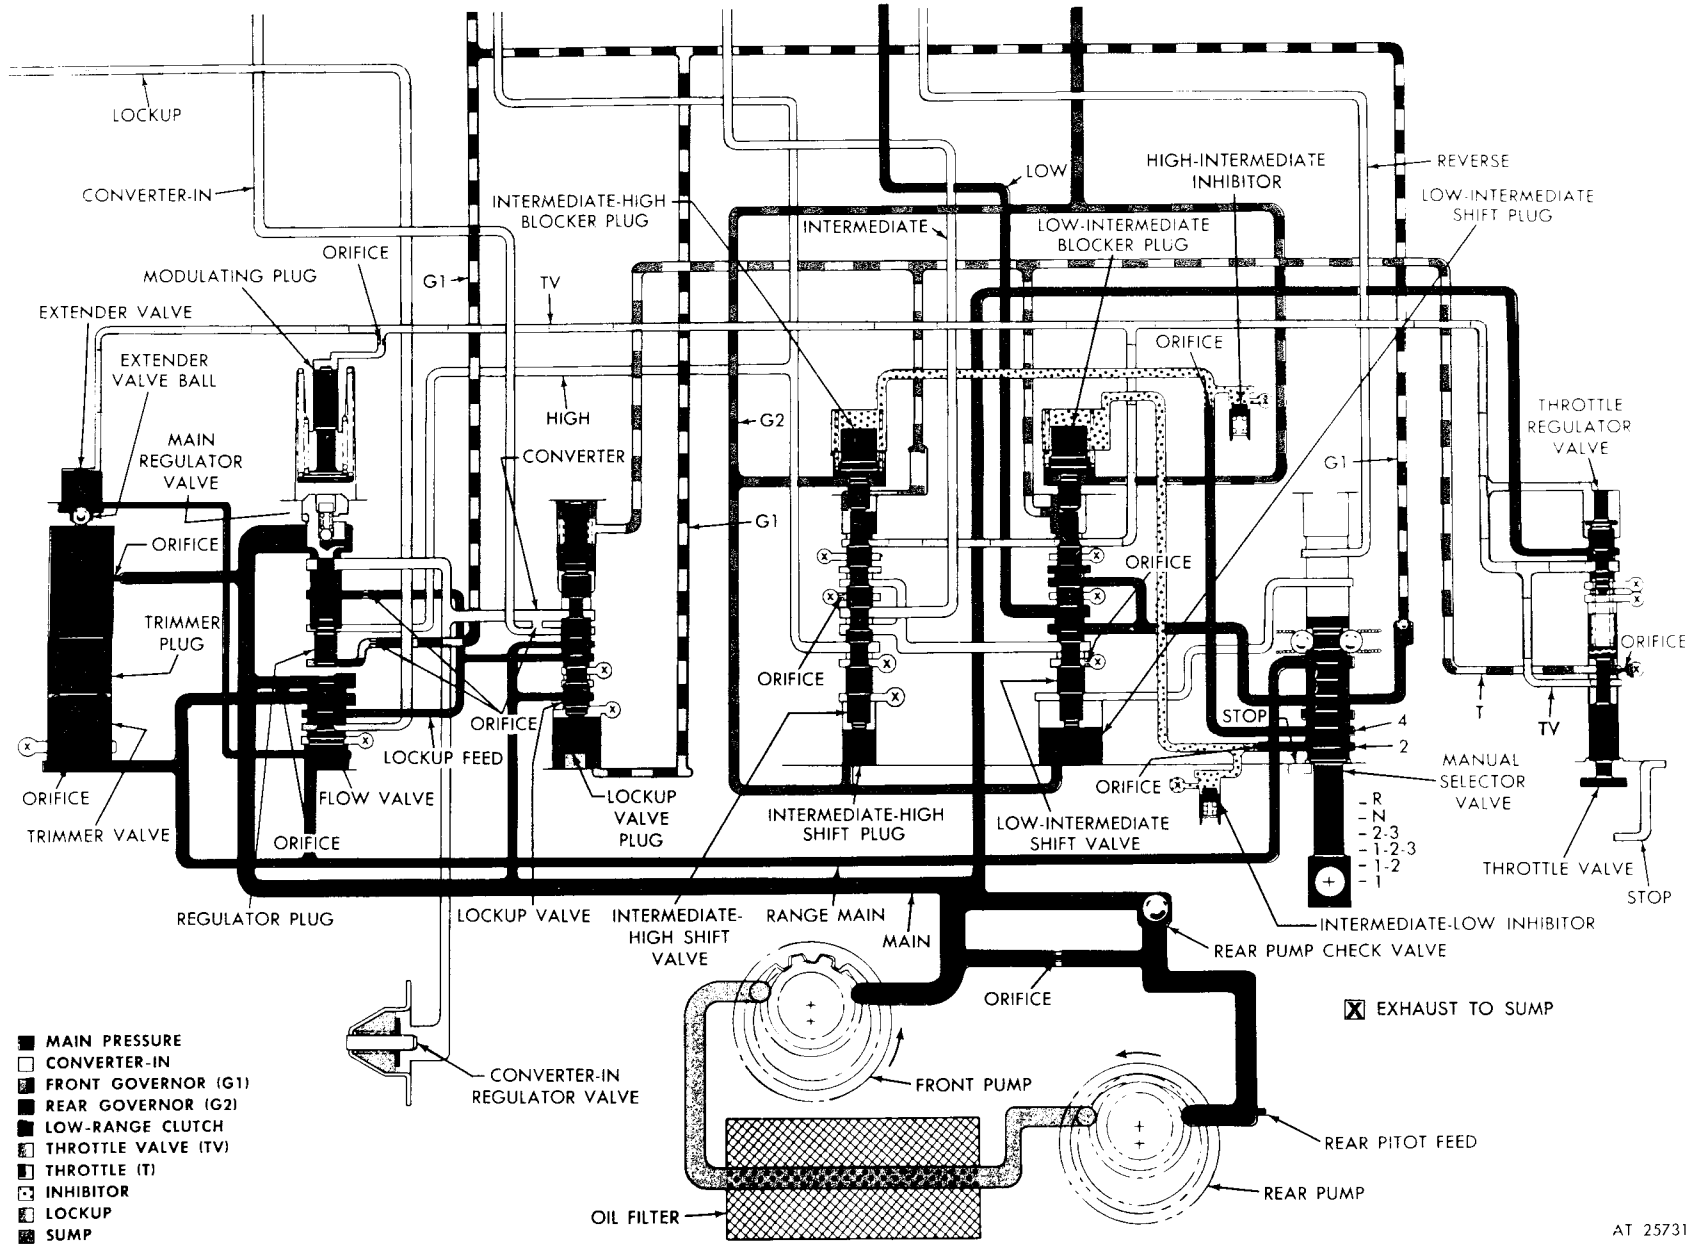

Figure 2-4. Hydraulic system low-range operation—schematic view.
a. Main Pressure Circuit (red—fig. 2-4).
(1) Figure 2-4 illustrates low-range operation of the transmission while engine throttle is open and the lockup clutch is engaged. The explanations of circuits and components, below, will refer to previous explanations where applicable.
(2) Oil is pumped into the main pressure circuit by both oil pumps (when vehicle is moving forward) in low-range operation. The rear pump check valve is open (upward) when the rear pump is rotating. Oil is distributed as described in paragraph 2-14a (2).
(3) At the throttle valve, during full-throttle operation as illustrated, the throttle valve (TV) and throttle (T) circuits are charged. Refer to *f* and *g* below for explanations of these circuits.
(4) At the manual selector valve, main pressure is directed to four points. These are the front governor check valve ball, low-intermediate shift valve, high-intermediate inhibitor circuit, and intermediate-low inhibitor circuit. Main pressure seats the check valve ball (upward) in the front governor (G1) passage and prevents governor pressure from exhausting.
(5) At the low-intermediate shift valve, main pressure divides to two branches. The upper branch is blocked but the pressure exerted against valve lands of different diameters exerts a downward force on low-intermediate shift valve. This pressure acts only when the valve is downward and prevents cycling of the valve. A similar downward force, resulting from unequal valve land diameters, is exerted in the lower branch. These forces act only when the valve is downward. The lower branch connects, when the low-intermediate shift valve is
b. Converter-In Circuit (yellow—fig. 2-4).
(1) The converter-in circuit functions as described in paragraph 2-14b, except for two conditions shown in figure 2-4 which differ from those shown in figure 2-3. In lockup operation, the flow of oil to converter-in line must pass through the orifice near the left side of the lockup valve. Also, the converter-in regulator valve is shown in an open position, allowing excess oil to return to the transmission sump.
(2) In lockup operation, the torque converter does not require a flow of oil as great as that required during converter operation, hence the oil is directed through an orifice. When the flow to the converter is reduced, the converter-in regulator valve may open to discharge excess oil and limit the pressure in the converter-in circuit.
c. Front Governor (G1) Circuit (blue, black—fig. 2-4).
(1) In low-range operation, the G1 circuit is operative (para 2-14c (1)).
(2) Pressure is prevented from bleeding off past the ball check valve at the right of the manual selector valve. When governor pressure is sufficient to overcome spring pressure (plus throttle (T) pressure) above the lockup valve, it will force the lockup valve plug and valve upward. This will charge the lockup feed line.
(3) At the main pressure regulator plug, pressure is exerted against the lower surface area of the plug. This tends to raise the plug. But, when the lockup valve is upward, main pressure above the plug keeps it from moving. When the lockup valve is downward (converter operation), the regulator plug moves upward to reduce main pressure as governor pressure rises. The orifice in the governor pressure line restricts flow to prevent movement of the plug being too rapid when it does move.
d. Rear Governor (G2) Circuit (green, black—fig. 2-4).
(1) Rear governor (G2) pressure is produced by the rear fluid velocity-type governor (para 2-2). This pressure is directed to four points and is the primary control force for all automatic upshifts and downshifts between ranges.
(2) G2 pressure is directed to the lower surface areas of the low-intermediate blocker plug and the low-intermediate shift plug. This produces an upward force at each plug. The low-intermediate blocker plug is shown in its downward position, being unable to move against its spring and inhibitor pressure. The shift plug (and shift valve) are shown in their downward positions. They have not moved upward, in this instance, because throttle (T) pressure, spring pressure, and inhibitor pressure is sufficient to prevent upshift.
(3) G2 pressure is directed also to the lower surface areas of the intermediate-high blocker plug
e. Low-Range Clutch Circuit (red, black—fig. 2-4). The low-range clutch circuit directs oil to the low-range clutch when the low-intermediate shift valve is downward. When the shift valve is upward, the low-range clutch exhausts through a port at the right side of the low-intermediate shift valve bore.
f. Throttle Valve (TV) Circuit (blue, yellow—fig. 2-4).
(1) Throttle valve (TV) pressure originates at the throttle regulator valve when the throttle is initially opened. It increases as the throttle is opened farther. This pressure is directed to areas near the upper ends of the low-intermediate and intermediate-high shift valves, to the main pressure modulating plug, and to the extender valve.
(2) At the low-intermediate and intermediate-high shift valves, TV pressure exerts a downward force which retards upshifting. Thus, the more the vehicle engine throttle is opened, the later upshifting occurs. When the valves have upshifted, TV pressure is blocked.
(3) At the main regulator modulating plug, downward pressure increases main pressure by moving the main regulator valve downward. Thus, as throttle opening progresses, main pressure is boosted.
(4) At the extender valve, TV pressure tends to push the extender valve downward. In figure 2-4, the valve is upward because both spring pressure and main pressure oppose downward movement. The effect of downward movement is an increase in pressure required beneath the extender valve ball to unseat it. This action influences trimmer operation (para 2-16i).
(5) TV pressure actually connects into the throttle (T) pressure circuit while either the low-intermediate shift valve or the intermediate-high shift valve is downward. This connection occurs in the valve bore areas near the upper ends of the valves. Thus, there is pressure in the T pressure circuit prior to upward movement of the throttle valve to a point which connects the TV and T circuits. This pressure retards the upward movement of the lockup valve and delays lockup. However, when the low-intermediate and intermediate-high shift valves are both upward, there can be no connection of the two circuits except at the throttle valve.
g. Throttle (T) Pressure Circuit (green, yellow—fig. 2-4).
(1) At approximately $\frac{5}{8}$ inch of throttle opening (upward movement of throttle valve),
(2) At the low-intermediate shift valve, T pressure is exerted downward on the shift valve and upward on the blocker plug. This pressure tends to hold the shift valve downward against the low-intermediate shift plug which is being pushed upward by G2 pressure. Thus, throttle opening delays upshifting. The greater throttle opening is, the greater is upshift delay.
(3) At the intermediate-high shift valve, the effect of T pressure is identical to that described in (2) above. However, the transmission speed range (and G2 pressure range) within which the movement of each of the shift values occurs is different. This difference is caused by the difference in spring loads and plug areas against which G2 pressure works. Thus, the low-intermediate shift valve, working with the lighter spring and greater plug area, will upshift at a lower vehicle speed (and G2 pressure) than will the intermediate-high shift valve.
(4) At the lockup valve, T pressure delays the upward movement of the lockup valve and thus delays lockup. The delay varies with throttle opening. Should the throttle be closed completely while the transmission is in low range, there would be no T pressure or TV pressure to inhibit the upward movement of the lockup valve.
(5) Throttle (TP) pressure can cause a downshift at full throttle under certain conditions as well as preventing an upshift under some conditions. T pressure can also cause a change from lockup operation to converter operation by moving the lockup valve downward. Input and output speed and governor (G1 and G2) pressures influence the point at which upshifts, downshifts, or lockup occur when the throttle is manipulated.